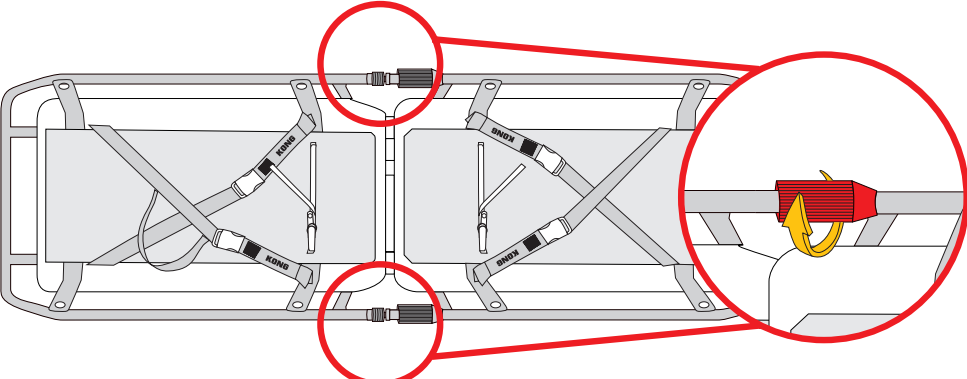

Fig.9
c) fully tighten the two ring nuts (fig. 9).